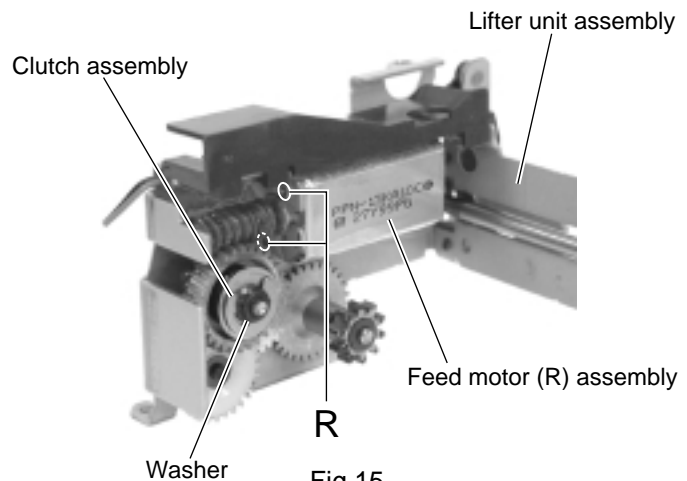

Fig.15
**■ Removing the feed motor (R) (See Fig.15)**